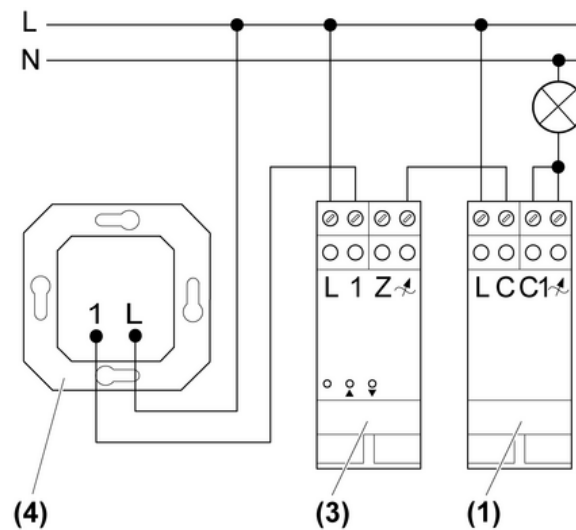
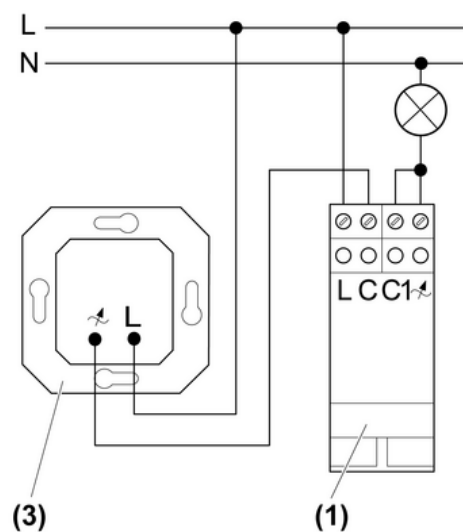
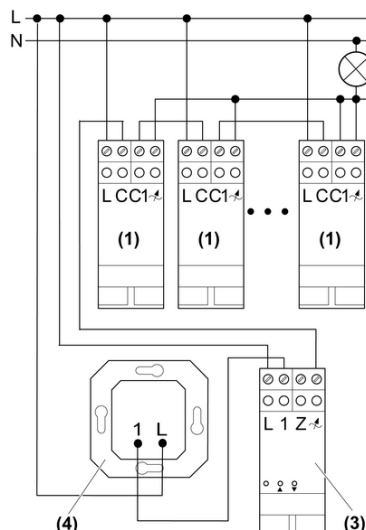

Figure 2: Connection diagram with RMD dimmer
Figure 3: Connection diagram with FM dimmer
Figure 4: Connection diagram with multiple power boosters
(1) Power booster
(3) Dimmer
(4) Local extension
- Connect the power booster according to the connection diagram, connection diagram with RMD dimmer (figure 2), connection diagram with FM dimmer (figure 3) or connection diagram with multiple power boosters (figure 4).